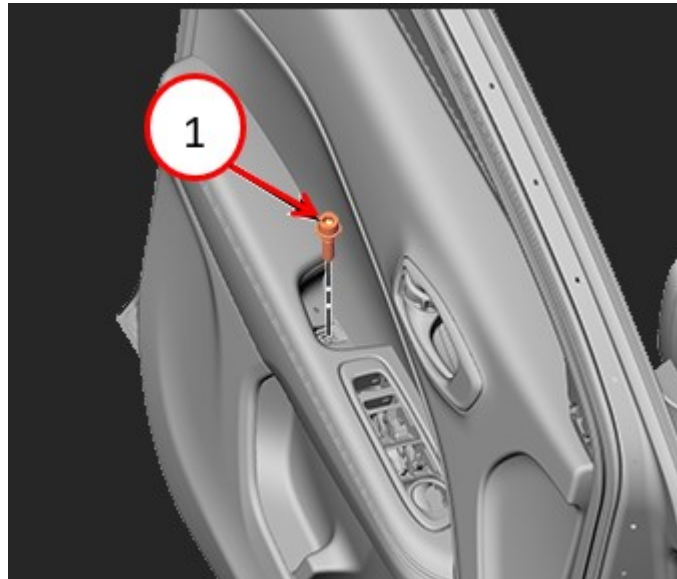

Fig. 2
2. Ensure screw is tightened to the proper torque of 3.5 N·m. (31 In - lbs.) (Fig. 2) .